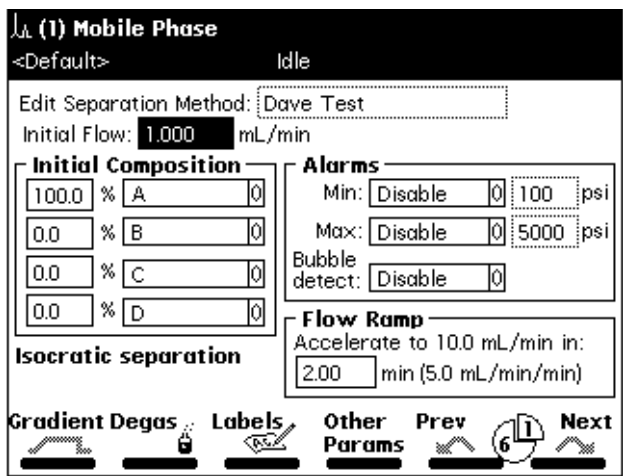

Figure 6-3 Mobile Phase Screen
The Mobile Phase screen (Figure 6-3) appears when you select the separation method to edit. Press the **Next** or **Previous** screen keys to move among the six method parameter screens. The icon between the Next and Previous screen keys shows where you are in the sequence of the six screens. Press **Exit** to return to the Methods screen. A dialog box prompts you to save the changes to the separation method.
1. Press the **Next** or **Prev** screen key (if necessary) to display the Mobile Phase screen (Figure 6-3).